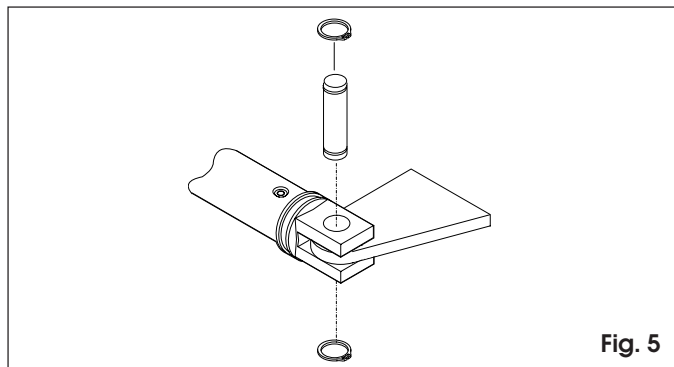

Fig. 5
- 7) Fit the front bracket onto the rod as shown in fig. 5.